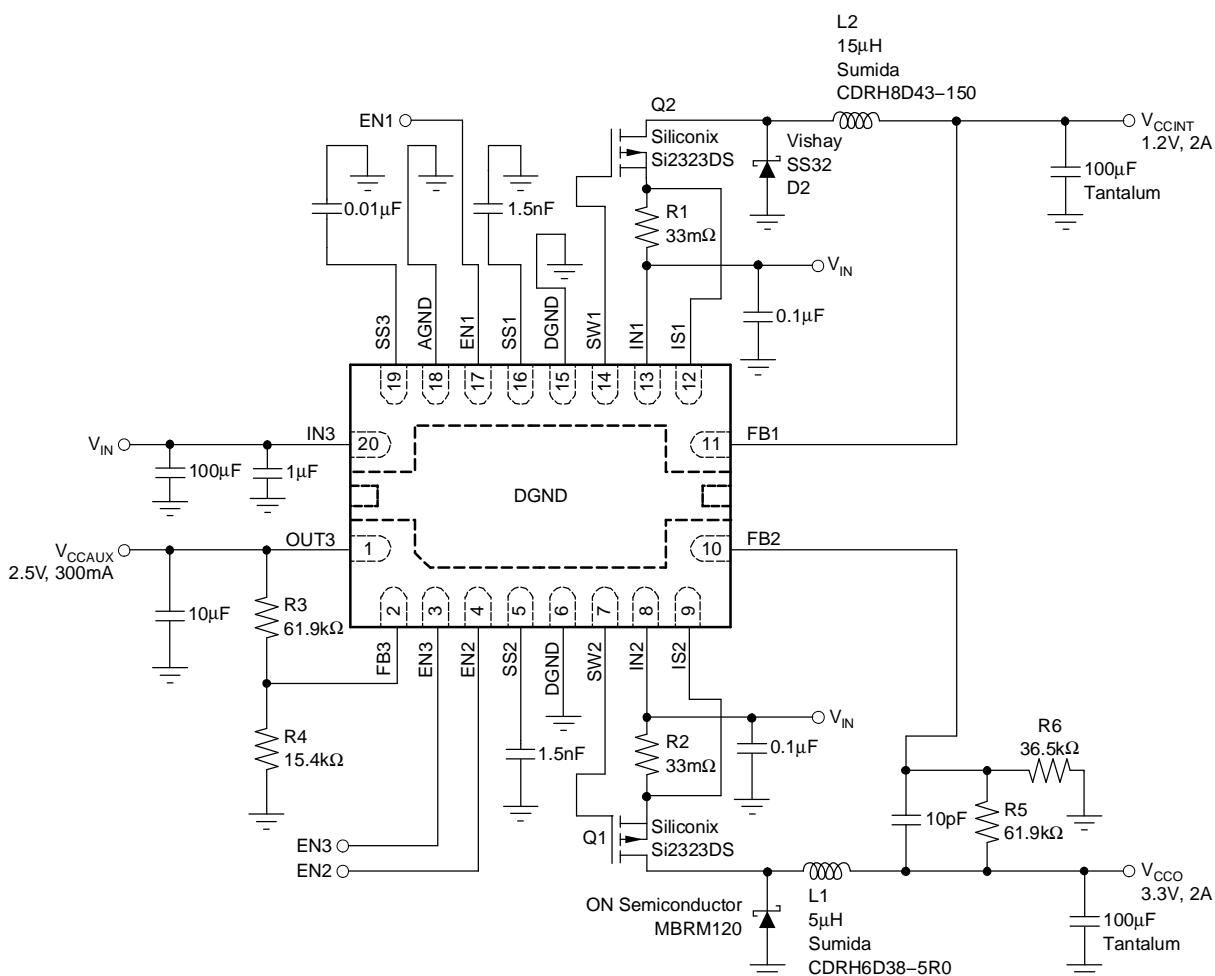

Figure 1.
Measured using circuit in Figure 1
**TYPICAL CHARACTERISTICS (continued)**Measured using circuit in Figure 1**Figure 19.****Figure 20.****Figure 21.**
Figure 1 shows a typical application circuit for powering the Xilinx Spartan-3 FPGA. Table 1 through Table 4 show component values that have been tested for use with 2A and 3A load currents. Other similar external components can be substituted as desired; however, in all cases the circuits that are used should be tested for compliance to application requirements.
Channels 1 and 2 contain two identical non-synchronous buck controllers that use minimum on-time/minimum off-time hysteretic control. (Refer to Figure 1.) For clarity, BUCK1 is used throughout the discussion of device operation. When  $V_{OUT1}$  is below its target, an external PMOS (Q1) is turned on for at least the minimum on-time, increasing current through the inductor (L1) until  $V_{OUT1}$  reaches its target value or the current limit (set by R1) is reached. Once either of these conditions is met, the PMOS is switched off for at least the minimum off-time of the device. After the minimum off-time has passed, the output voltage is monitored and the switch is turned on again when necessary.